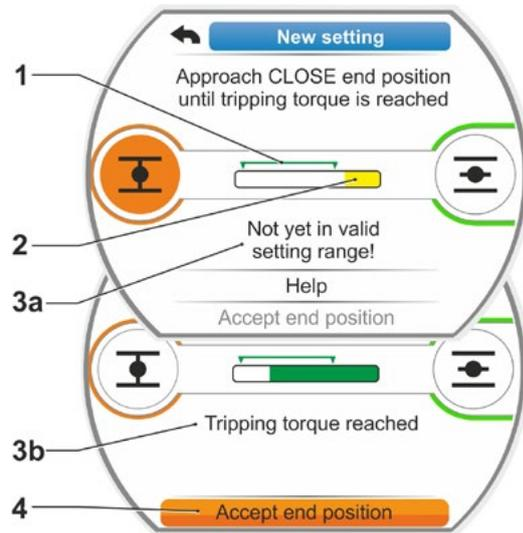

Fig. 12: Approach end position CLOSED in torque dependent cut-off mode
- b) Set selection marker to 'Accept end positions' menu item (fig. 12, item 4).
Display indicates whether the valid setting range (fig. 12, item 1) has been reached (3b) or not yet (3a) and the progress bar (2) changes the color from yellow to green. Once the tripping torque has been reached, the 'Tripping torque reached' message (3b) is displayed and the 'Accept end position' menu item is active (fig. 12, item 4).